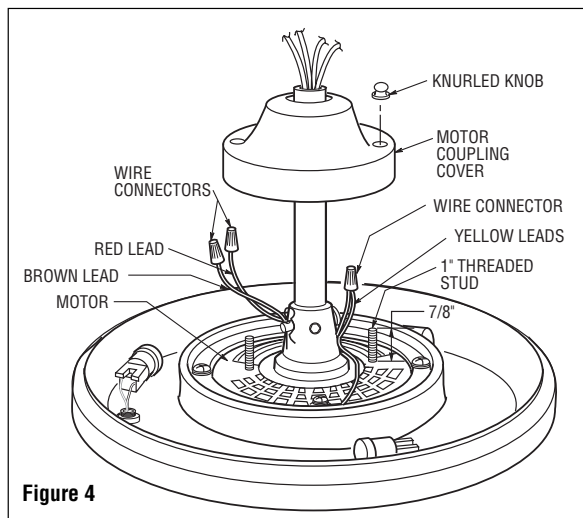

Figure 4
7. Screw two 1" threaded studs (provided) into the motor (Figure 4). Leave approximately 7/8" of the stud extending above the motor. Slide the motor cover over the downrod and rotate the cover until the threaded studs protrude; install two knurled knobs (supplied) to secure the cover.